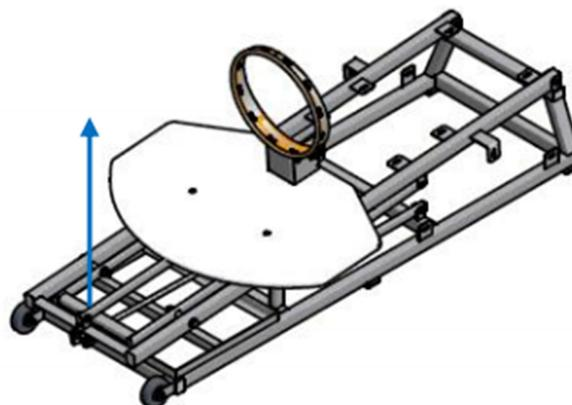

Figure 3: Lifting the frame
- A To set up the basketball unit, lift the upper frame out of the support points (see figure 3 below). We recommend starting from the back, between the transport wheels, and moving forward.